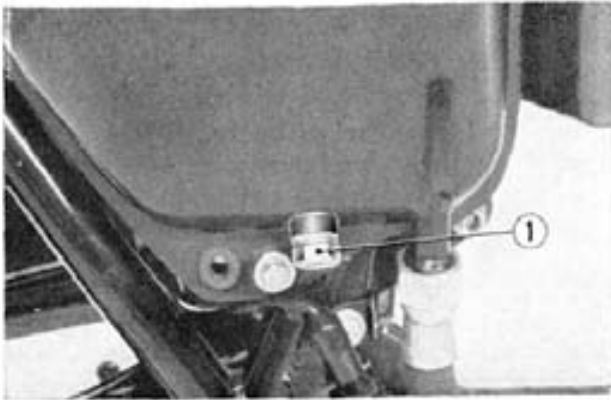

Fig. 19-1 ① Oil tank drain plug
(1) Take the oil tank cap off and remove the drain plugs from the oil tank and lower crankcase. (Fig. 19-1, 2) The oil will drain steadily. Operate the kick starter several times to drain any oil which may have been left within the pockets of the engine. After the oil has been thoroughly drained, reinstall and tighten the drain plugs.
(2) Add approximately 3.0 qts. (2.9 lit.) of good grade oil of MS, DG or DM, SAE 10W-40 or 20W-50 into the oil tank and start the engine. After making sure that the warning light is off, raise the engine rpm to 1000~1500 and run the engine for one or two minutes.